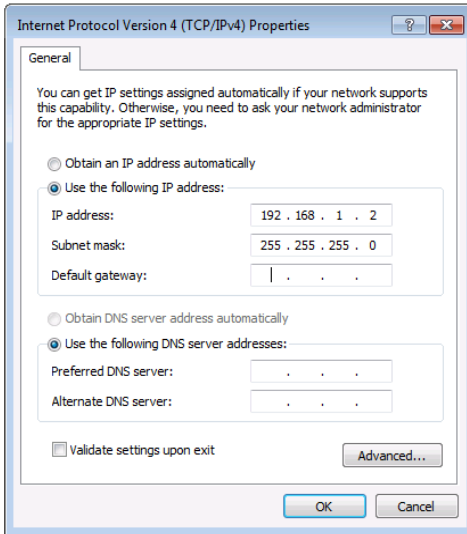

Figure 19: Internet Protocol Properties Window
6. Select **Use the following IP Address** for static IP addressing and fill in the details as shown in Figure 19.